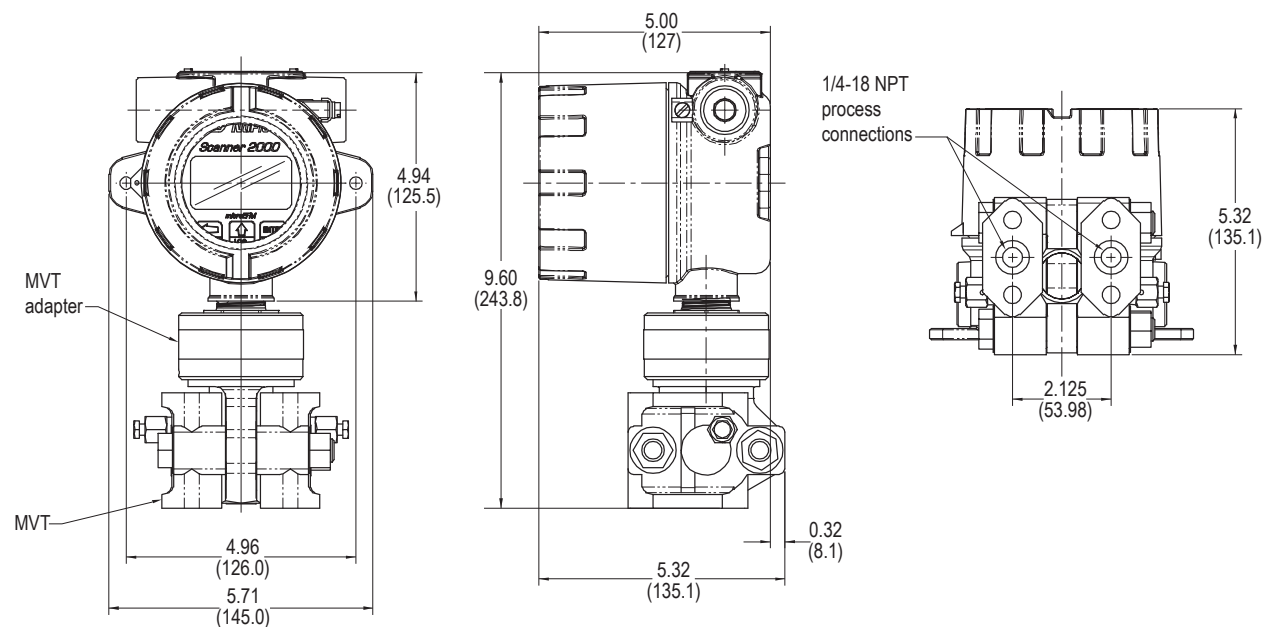

Figure 2.1—Scanner 2000 with direct-mount MVT (MVT with bottom ports shown)
- Direct-mount to an orifice or cone type DP meter. The integral multi-variable sensor may be connected to the pressure taps with stabilizers or a heavy wall nipple with adapter flanges, and a 5-valve manifold (Figure 2.1, page 31). A bottom-port MVT is recommended for gas measurement; a side-mount MVT is recommended for liquid or steam measurement.